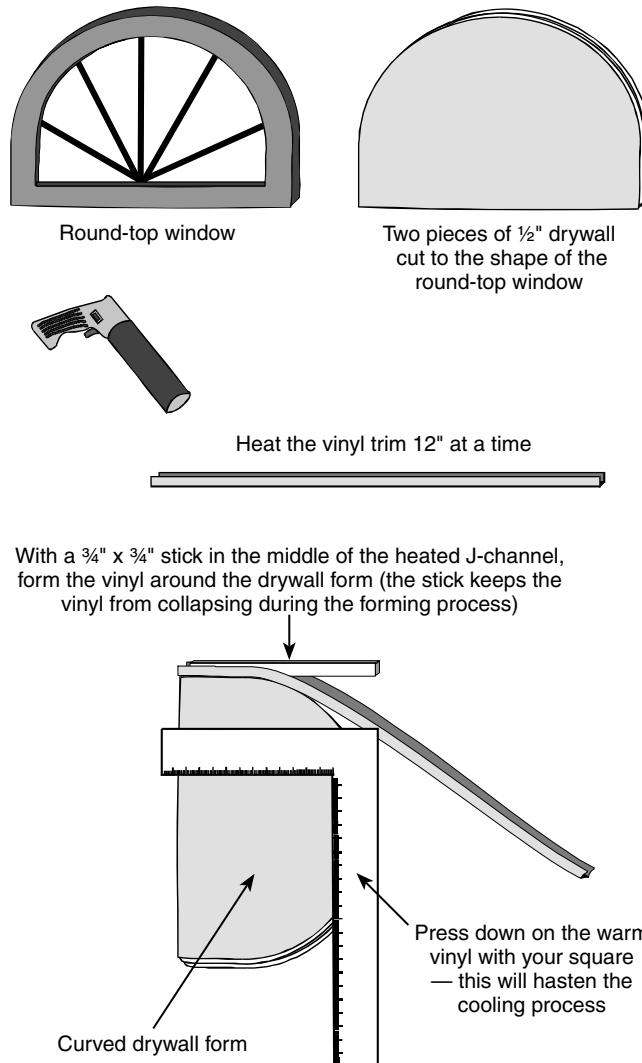

Figure 14-8
1. Use drywall to make a form for the J-channel trim to bend around. Drywall is inexpensive and easy to cut with a saber saw, so that's what I use. You could use a utility knife, but that's more time-consuming. As shown in Figure 14-8, cut two pieces of $\frac{1}{2}$ -inch drywall the shape of the round top and glue them together.